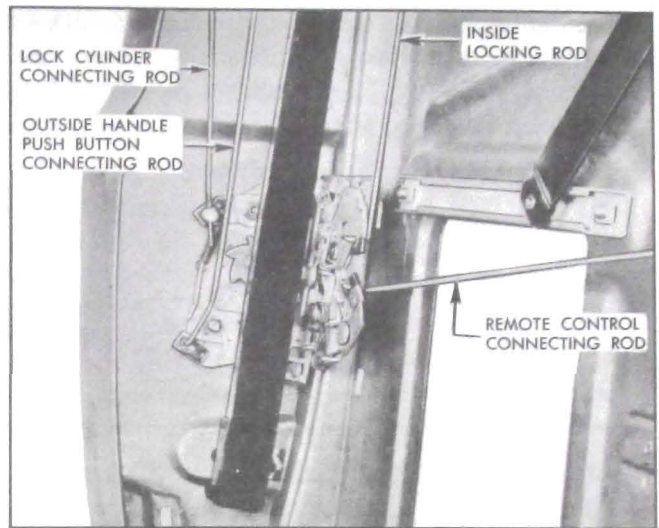

Figure 13-45—Front Door Lock—Models 43-63
detach lock cylinder connecting rod from lock, Figure 13-45.
(a) On 43 and 63 bodies disengage spring clip and detach outside handle push button connecting rod adjusting nut from lock, Figure 13-45.
(b) Disengage spring clips and detach remote control connecting rod and inside locking rod from lock, Figure 13-45.
2. On 43 and 63 bodies disengage spring clip and detach remote control connecting rod from lock, Figure 13-45.